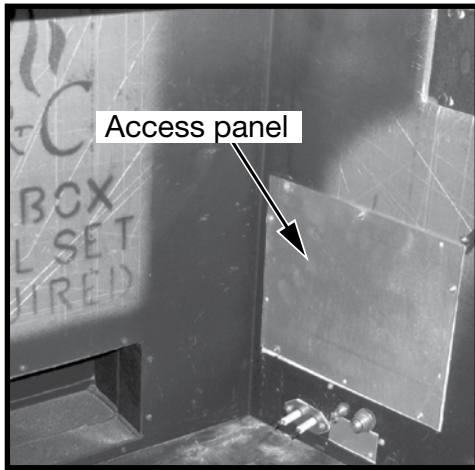

Figure 25: Access panel location.
3. Remove access panel from right hand side of the firebox (Figure 25).